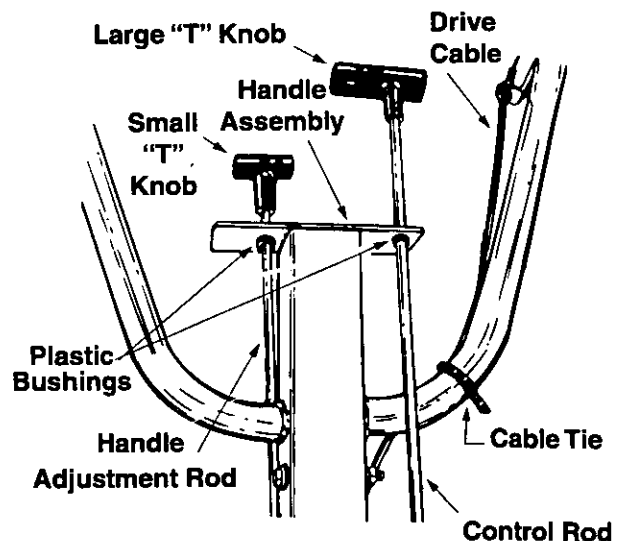

Figure 11
Secure drive cable to left handle using cable tie. Refer to Figure 11. Cut off excess end of cable tie
1. Insert the end of control rod with the 90 degree bend **down** through the plastic bushing on the left side of handle assembly. See Figure 11.
1. Insert the end of handle adjustment rod **down** through the plastic bushing on the right side of handle assembly. See Figure 11.